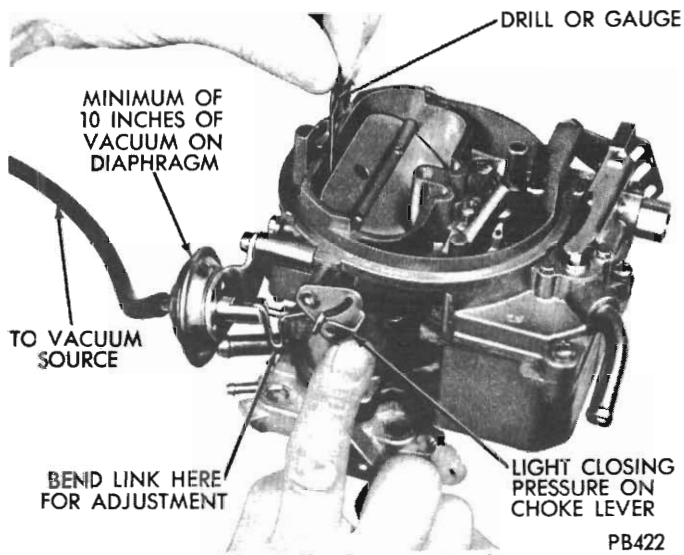

Fig. 25 - Adjusting vacuum kick
(1) If adjustment is to be made with engine running, disconnect fast idle linkage to allow choke to close to the kick position with engine at curb idle. If an auxiliary vacuum source is to be used, open throttle valves (engine not running) and move choke to closed position. Release throttle first, then release choke.
(2) When using an auxiliary vacuum source, disconnect vacuum hose from carburettor and connect it to hose from vacuum supply, with a small length of tube to act as a fitting. Removal of hose from diaphragm may require forces which can damage the system. Apply a vacuum of 10 or more inches of mercury.
(3) Insert specified drill (refer to Specifications) between top of choke valve and wall of air horn (Fig. 25). Apply sufficient closing pressure on lever to which choke rod attaches to provide a minimum choke valve opening, without distortion of diaphragm link. Note that the cylindrical stem of diaphragm will extend as internal spring is com-